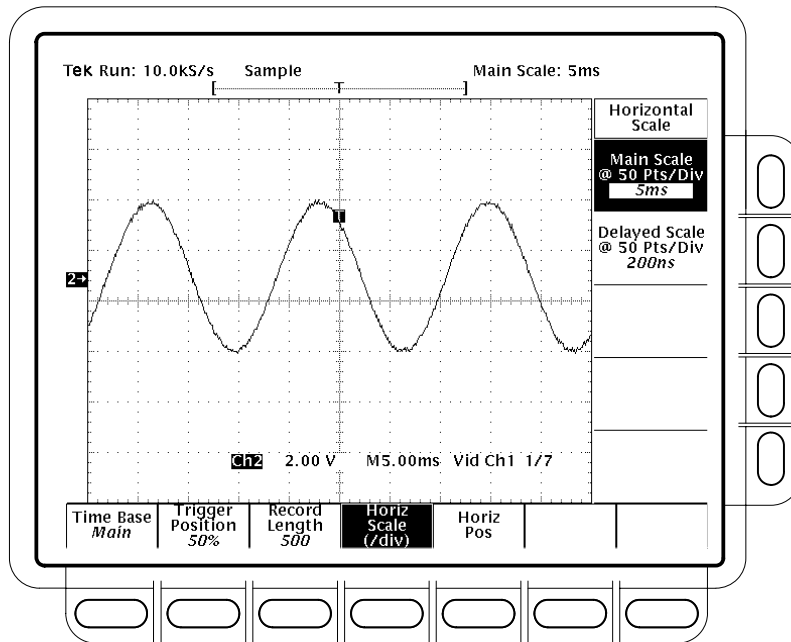

Figure 1-31: 60 Hz Rejection Test Setup Signal
- Adjust the signal generator for three vertical divisions of 60 Hz signal. See Figure 1-31. The signal will not be triggered. That is, it will run free.